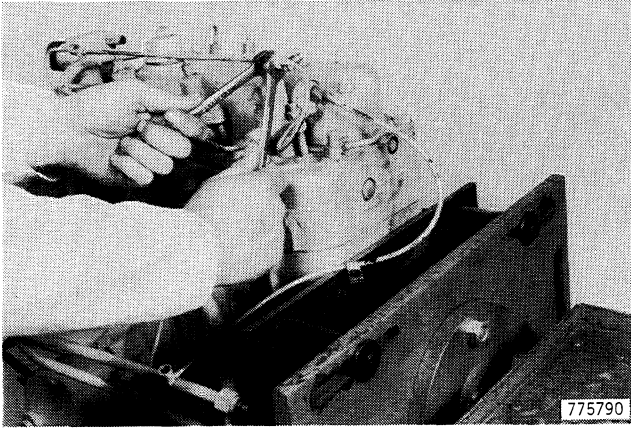

Figure 44
19. Disconnect the thermostart tube, Figure 44.